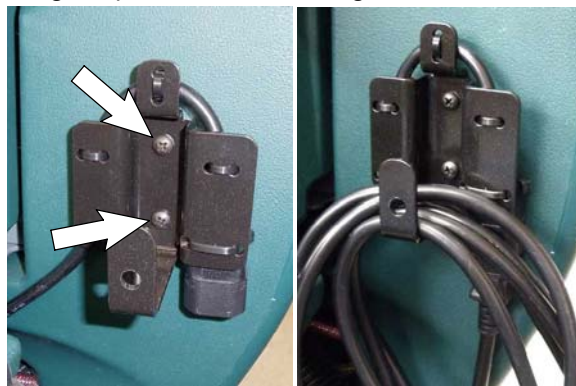

Fig. 9
9. Align retainer bracket holes with marks on console and attach bracket using (2) self-tapping screws (Figure 9). Connect the extension cord into the charger's power cord and hang cord on hook.